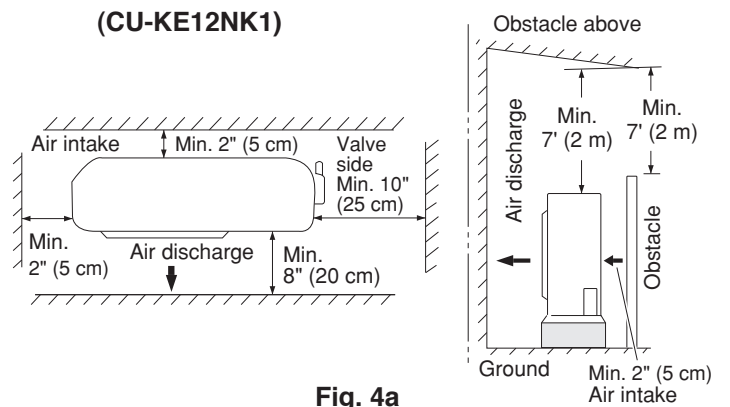

Fig. 4a
- install in a location where at least two sides are unobstructed, so that the flow of air at the intake port or exhaust port is not blocked, and so that sufficient space is ensured for maintenance to be carried out without trouble. In general the top also must be unobstructed. (Figs. 4a and 4b)